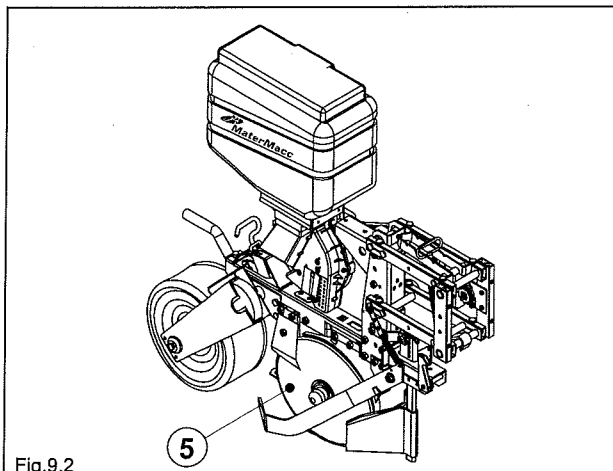

Fig.9.2
- a system for burying the seed underground that can either be with shoe **4** (standard) or with double discs **5** (upon request) (Fig. 9.2).